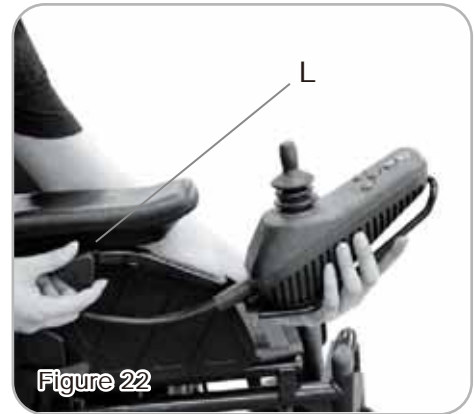

Figure 22
1.The distance of your controller unit can be easily changed for the desired position. To adjust it, loosen the thumbscrew (L) and slide into or out of the controller bracket.(Figure 22)